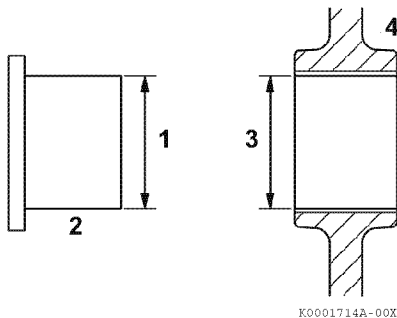

Figure 6-77
1. Measure the outside diameter (Figure 6-77, (1)) of the idler gear shaft (Figure 6-77, (2)). Record the measurements. See *Idler Gear Shaft and Bushing on page 6-6 for specifications.*
2. Measure the inside diameter (Figure 6-77, (3)) of the idler gear bushing (Figure 6-77, (4)). Record the measurements. See *Idler Gear Shaft and Bushing on page 6-6 for specifications.*